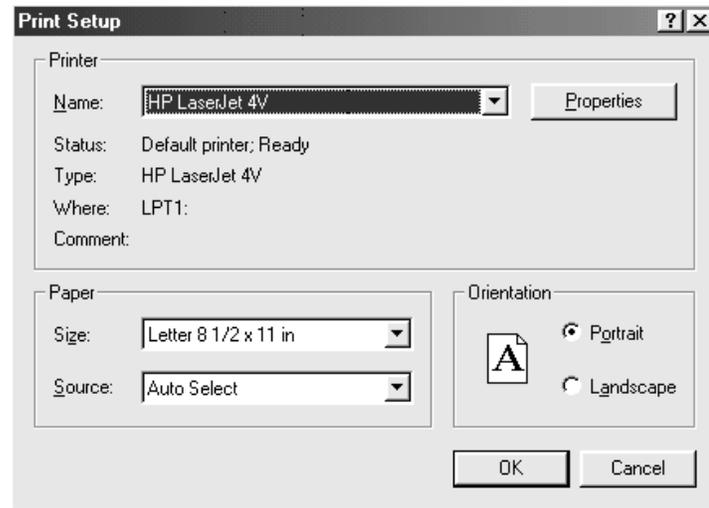

Figure 6-8. Print Dialog Box
1. Choose FILE... PRINT SETUP... from the Menu bar to display the Print Setup dialog box (see Figure 6-8).